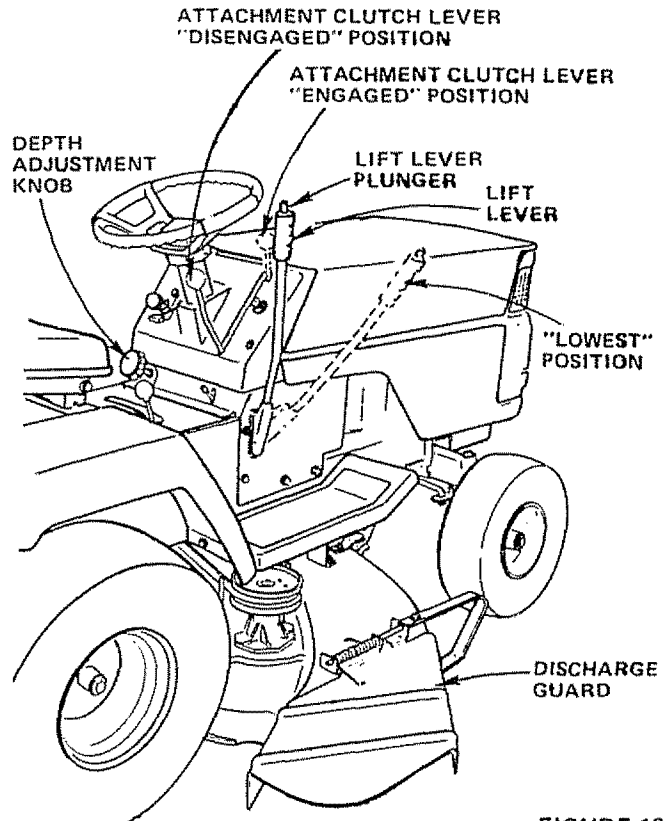

FIGURE 19
1. Place Attachment Clutch Lever in "DISENGAGED" position (Fig. 19).
Your mower has a flip-up Discharge Guard (Fig. 19) for door or gate clearance when held in raised position.